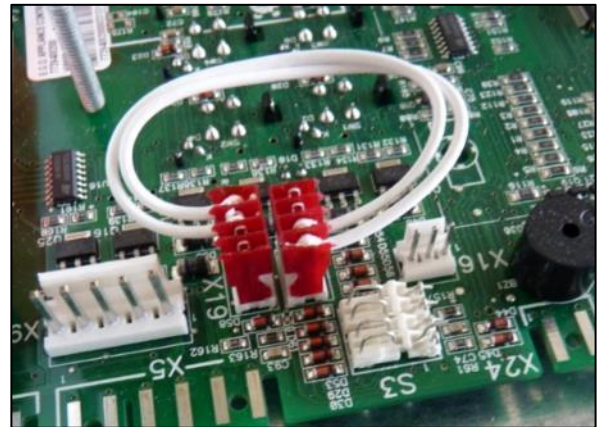

Fig.3.4
6. On LC-CC control machines, locate and remove the machine identifier X18-X19 (Fig. 3.4) and fit it onto the new board.